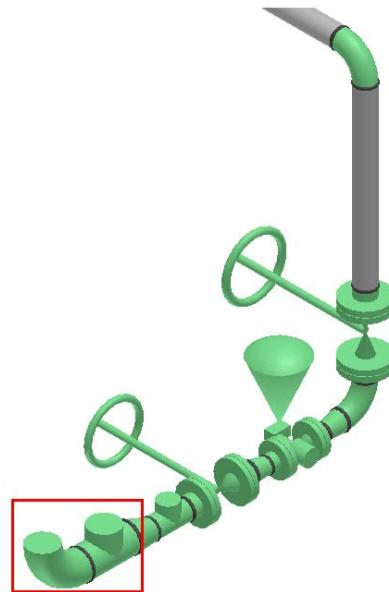

Figure 84: Placed Tee and Elbow
41. Now insert a tee and an elbow **90 Degree Direction Change**, as shown in Figure 84, by selecting them in the **Type** drop-down list on the **Insert Component** ribbon.